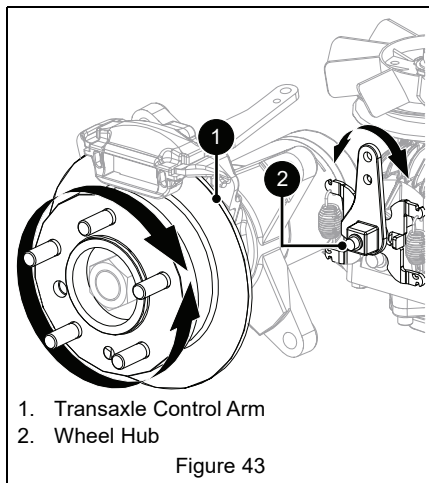

Figure 43
2. Slowly turn transaxle control arm in the opposite direction of hub rotation until hub stops. See Figure 43.